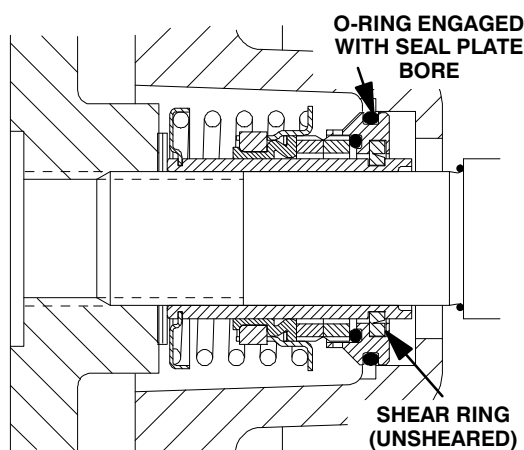

Figure 8. Seal Partially Installed
Install the set of impeller shims (20) provided with the seal and install the impeller key (31) in the shaft keyway. Position the impeller keyway over the impeller key and press the impeller onto the shaft until it is seated against the seal (see Figure 8).